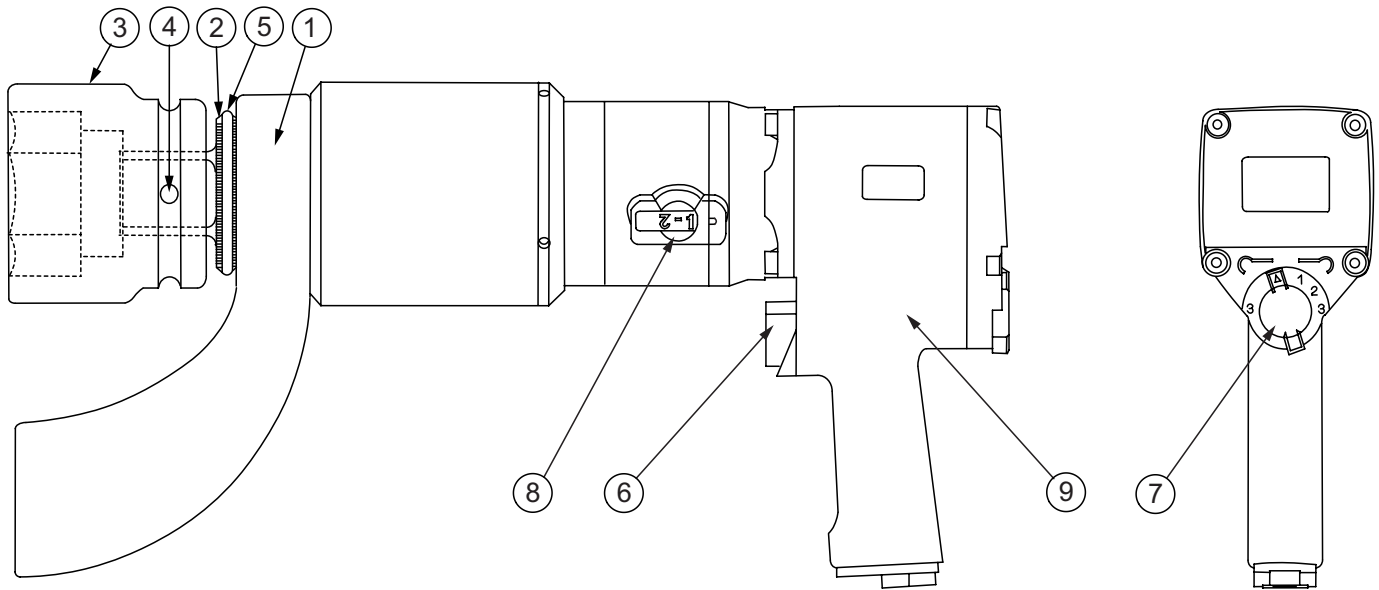

Fig. 2.7. NRP Series Pneumatic Torque Wrench
- Attach the reaction arm (1) to the tool by aligning the splines (2), slide fully into position and secure with the ring (5) (see Fig. 2.7)
- Attach a socket (3) onto the square drive (4) and reliably secure using an attachment pin or similar. Use only impact grade sockets, and ensure that the socket A/F (Across Flats) size is correct for the bolt / nut being tightened.
- Select the desired rotation speed using the gear selector switch (8). Referring to the torque calibration chart supplied with tool, select the motor setting and corresponding air pressure to achieve the required torque for the application. Position the motor setting switch (7) as required.
- With the tool NOT applied to the nut / bolt, depress the start trigger (6), and adjust the air pressure using the air control unit to achieve the desired torque, WITH THE TOOL ROTATING AT FULL SPEED (Idle Speed).